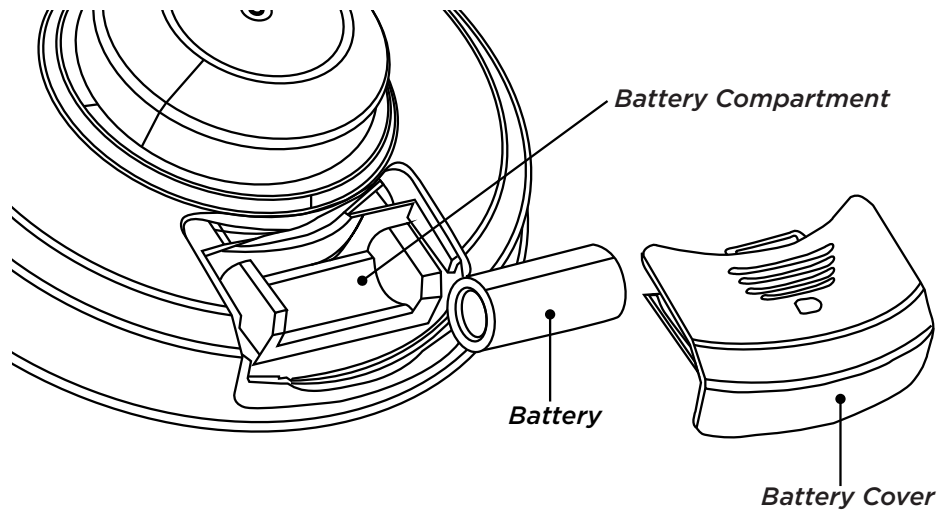

Figure 2: Battery Compartment
1. Slide the battery compartment cover away from the detector to unsnap it and lift it off. See Figure 2.